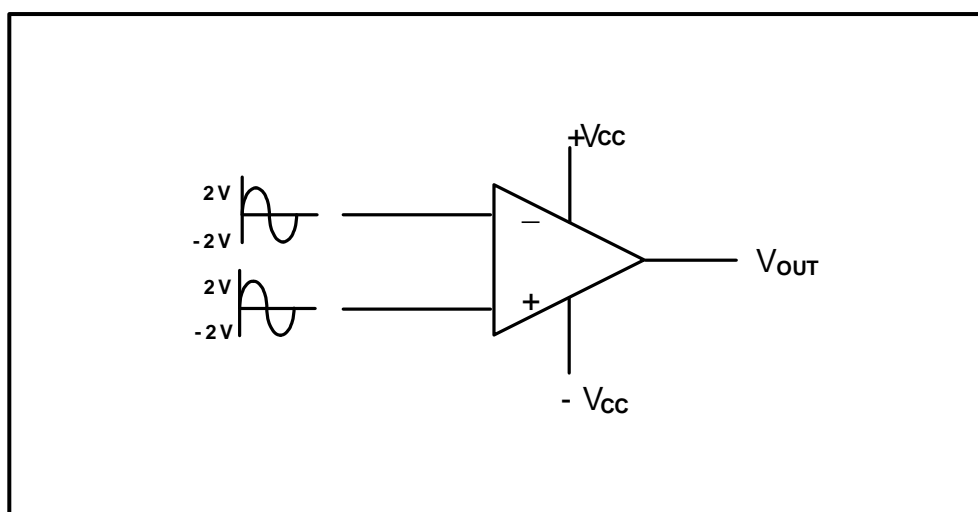

FIGURE 7.4: OPERATIONAL AMPLIFIER
7.4 Refer to FIGURE 7.4 below and draw the output of an ideal operational amplifier